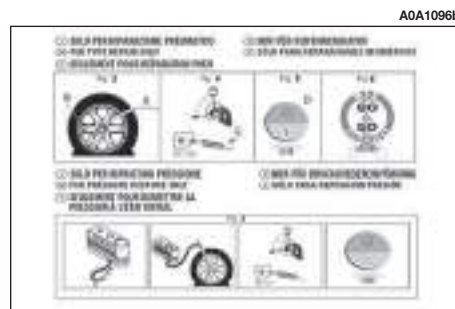

fig. 11
– instruction brochure **fig. 11**, to be used for prompt and proper use of the quick repair kit and to be then handed to the personnel charged with handling the treated tyre;